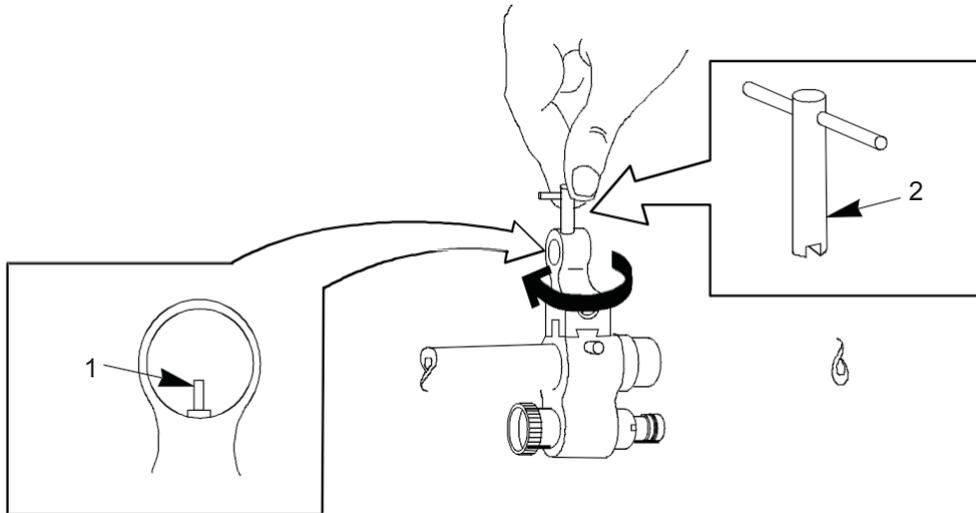

Figure 23. Barrel, Front Sight Post, Spanner Wrench.
12. Screw in new front sight post (Figure 23, Item 1) clockwise (CW) using front sight post spanner wrench (Figure 23, Item 2) until threads on front sight post (Figure 23, Item 1) are even with the number of threads exposed before removal.